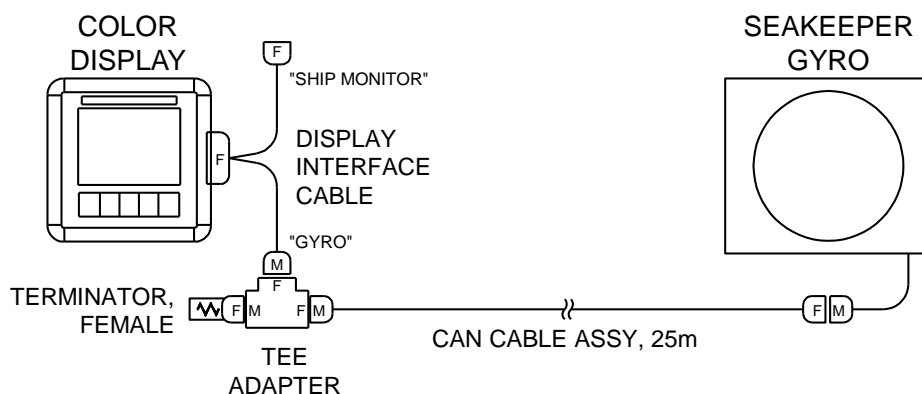

FIGURE 9 – SERIAL COMMUNICATIONS LINK FOR OPERATOR STATION
- c. Figure 9 below shows the CANbus communications link for the Operator Station. The Terminator goes on the far end of the Tee Adapter from the Seakeeper.